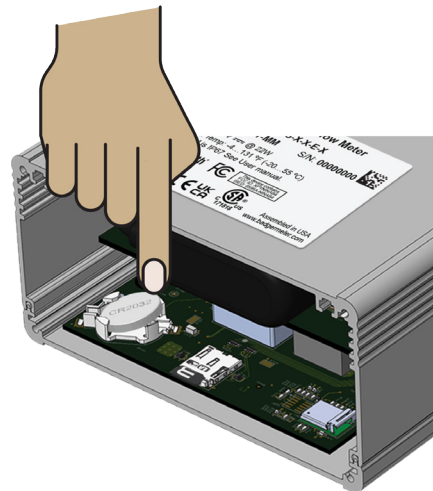

Figure 24: Insert new coin battery
- Insert a new battery at an angle (see Figure 24). Push down on the top of the battery until it snaps in place. The battery does not snap in place if it is installed incorrectly.